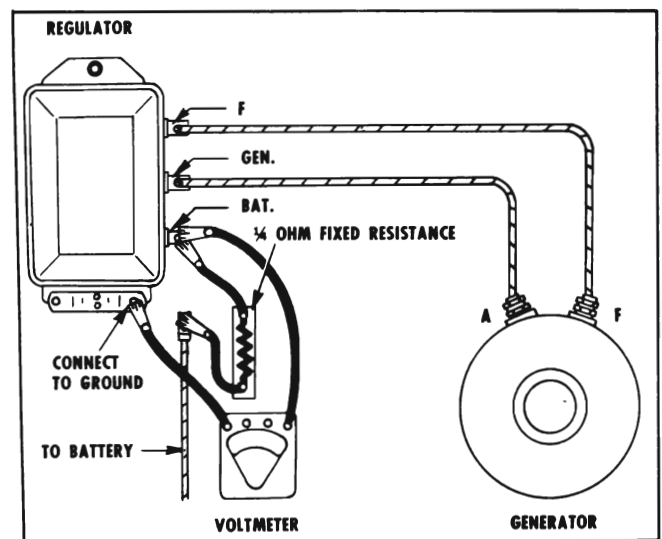

Figure 10-14—Testing Voltage Regulator
3. Connect a 1/4 ohm fixed resistor into charging circuit at "BAT" terminal of regulator. See Figure 10-14.